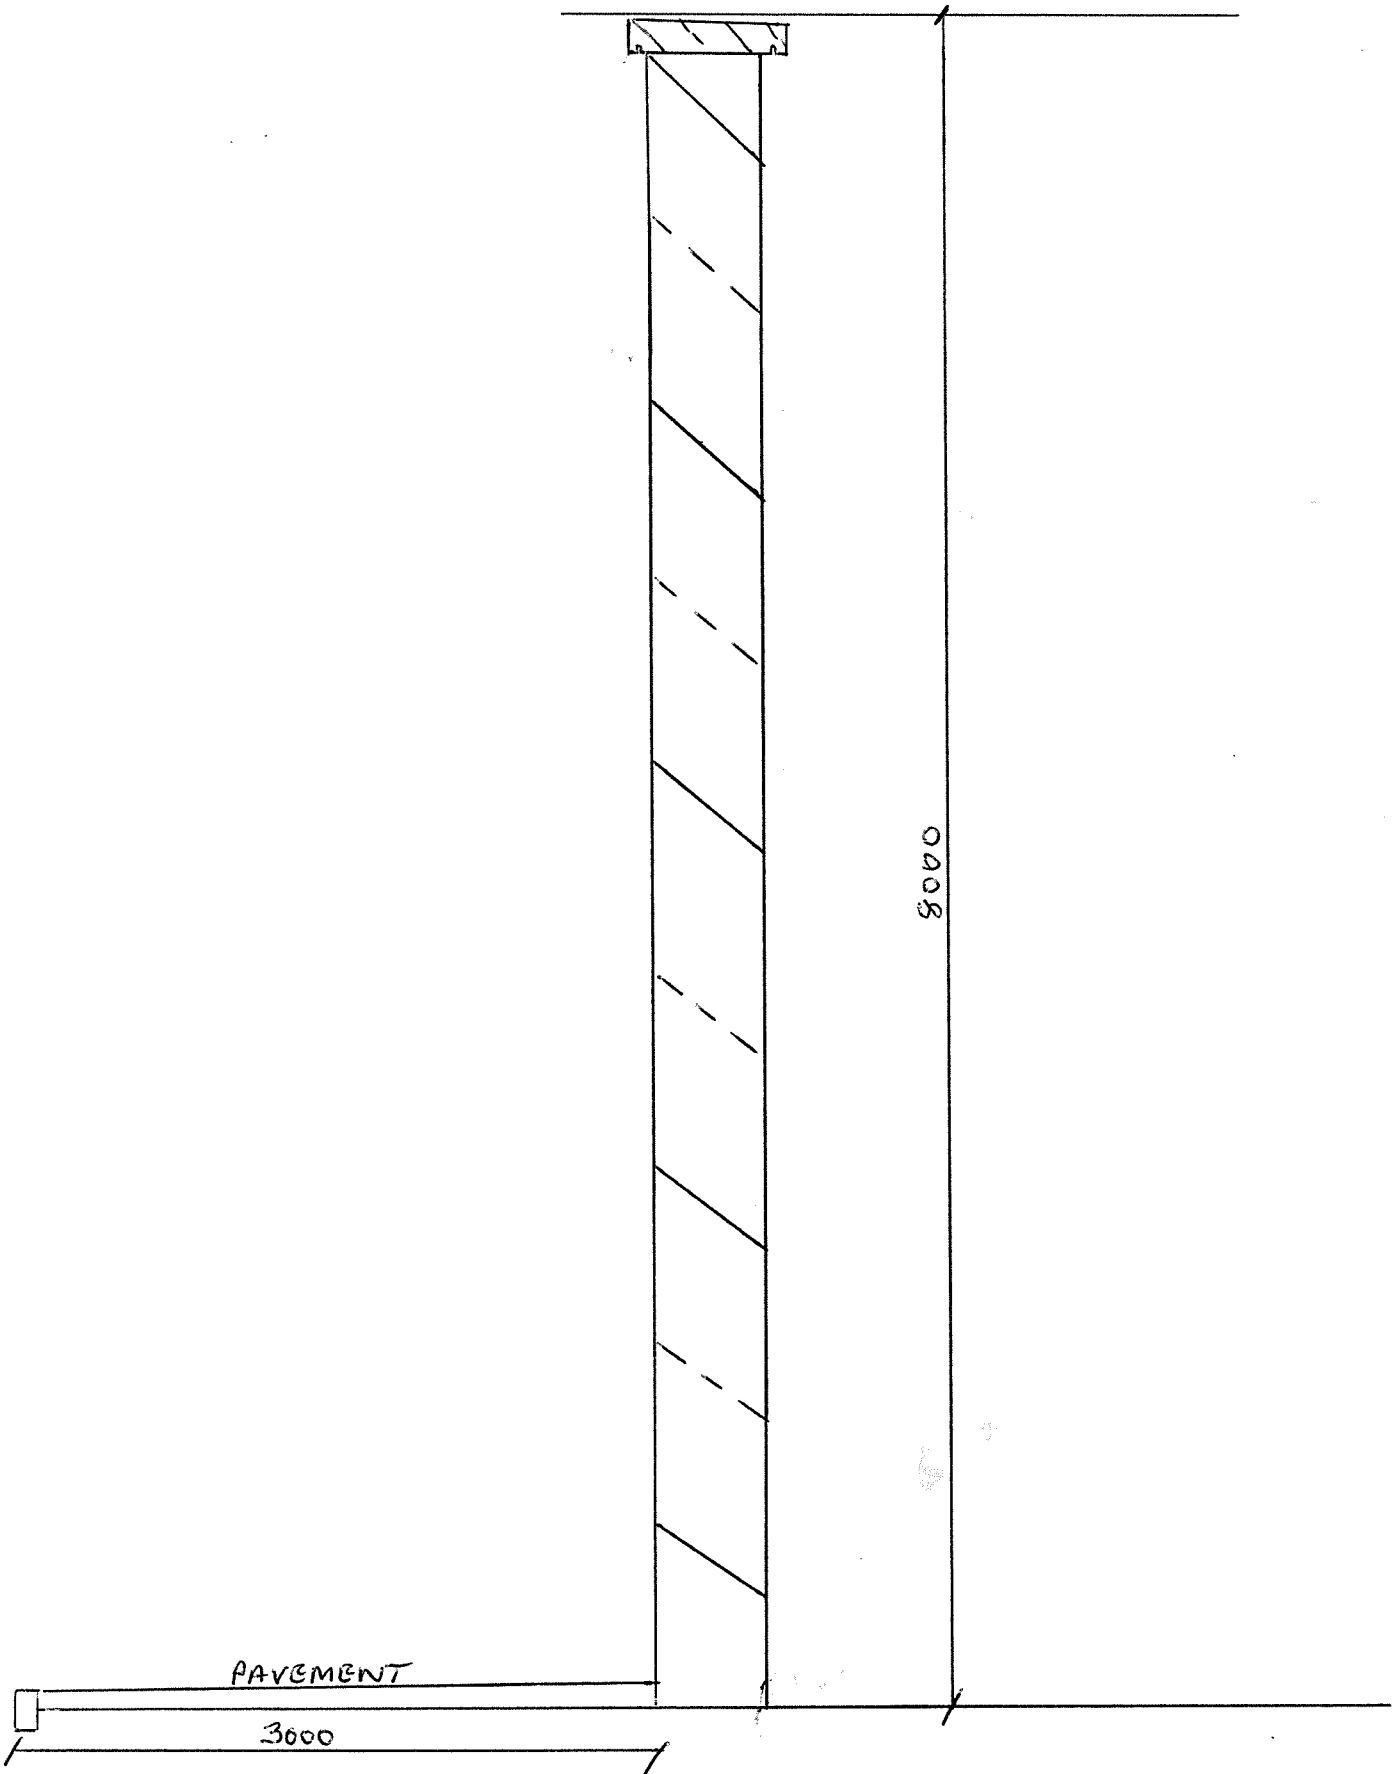

FIGURE 1
- (b) Using figure 1 attached explain with the aid of annotated sketch how the existing façade can be given temporary support during the construction of the six storey apartment block.